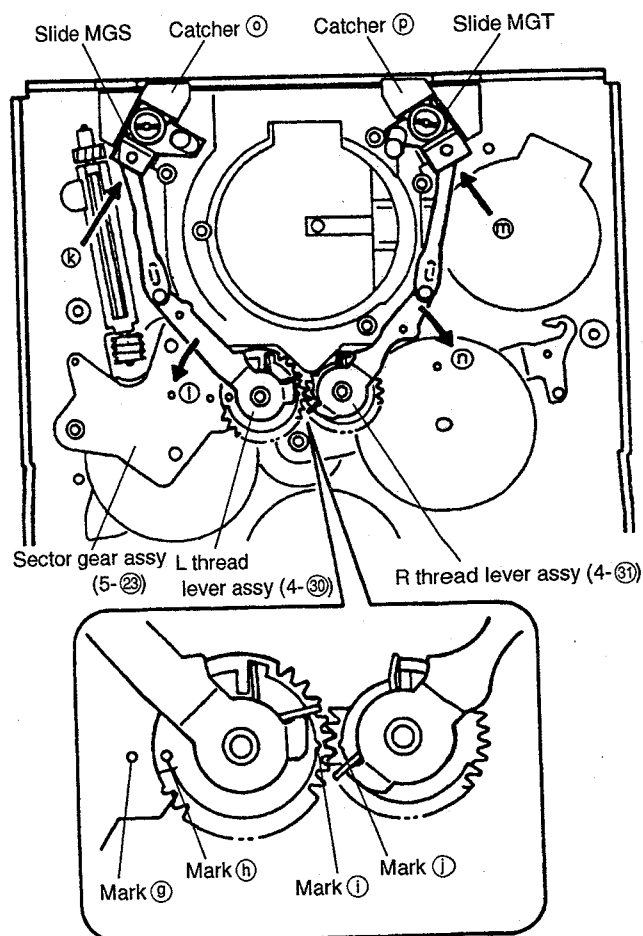

Fig. 5
- 1) As shown in Fig. 5, install L thread lever assy (4-30) so that mark ① on L thread lever assy (4-30) is aligned with mark ⑨ on Sector gear assy (5-23).
- 2) Insert Slide MGS into the groove of catcher ⑥ by pushing it from the direction of arrow ①. (While retracting the lever of L thread lever assy (4-30) in the direction of arrow ① with one hand, then with the other hand, push Slide MGS towards the groove of catcher ⑥ and release the hands.)
- 1) As shown in Fig. 5, install R thread lever assy (4-31) so that mark ① on R thread lever assy (4-31) is aligned with mark ① on L thread lever assy (4-30).
- 2) Insert Slide MGT into the groove of catcher ⑦ by pushing it from the direction of arrow ②. (While retracting the lever of R thread lever assy (4-31) in the direction of arrow ② with one hand, then with the other hand, push Slide MGT towards the groove of catcher ⑦ and release the hands.)